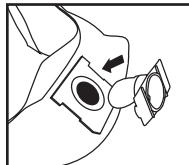

FIGURE 14
23. Position the inlet deflector with the opening facing the left or the right side of the filter bag. Slide the filter bag collar over the inlet deflector, matching the notches of the bag collar to the tabs on the inlet deflector. Bag will only fit properly one way. **FIGURE 14.**